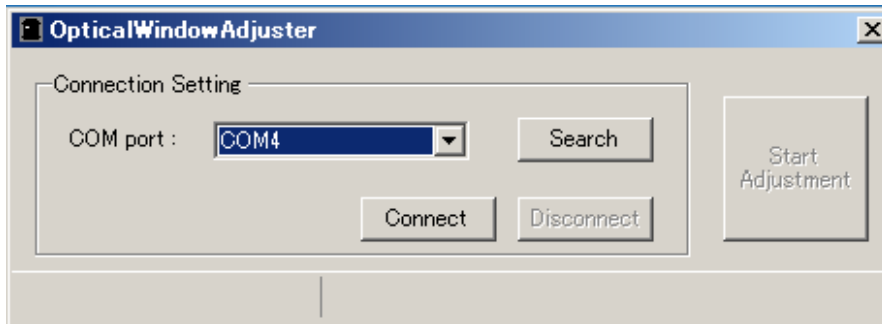

Figure 8-2 Optical Window Adjuster
- c) Start Optical Window Adjuster. Window as shown in figure 8-2 will appear.
- g) When adjustment is complete, dialog box as shown in Figure 8-3 will appear. Click the OK button and then click disconnect button (Figure 8-2). Remove the USB cable. UAM will switch to normal operation. Retry the adjustment after checking the optical window and USB connection if an error dialog as shown in Figure 8-4 is displayed. If adjustment fails even after repeated trial contact the nearest distributor or sales representative for support. Send the log file and calibration data file for investigating the cause of failure in such case.